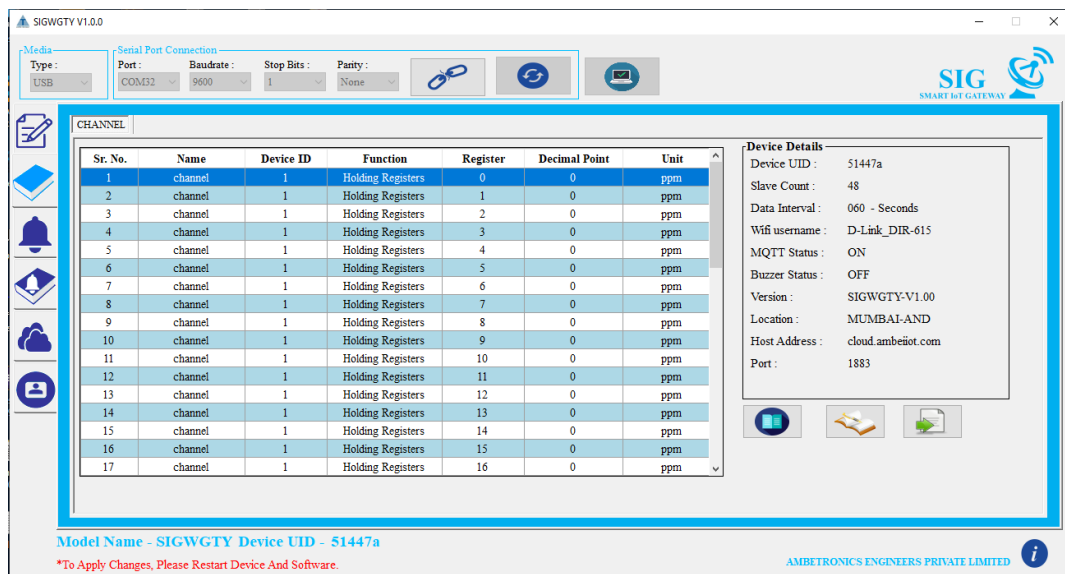

Figure 24
- This  button is used to read the existing settings from the device and display it on window. After clicking on  button following window will be open. Refer Figure 24.